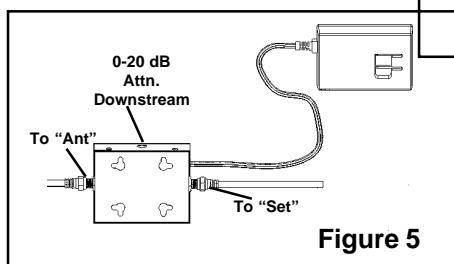

Figure 5
8. Run the download to the PS-0200 power supply connector labeled "To Ant". (See Figure 5.)
9. Run a cable from the PS-0200 power supply connector labeled "To Set" to the set-top. (See Figure 5.)
4. Place the "L" bracket on the back of the antenna. Insert two carriage bolts from the front (figure 4) to attach. Secure on the back with the lock washers and nuts. (See Figure 5).